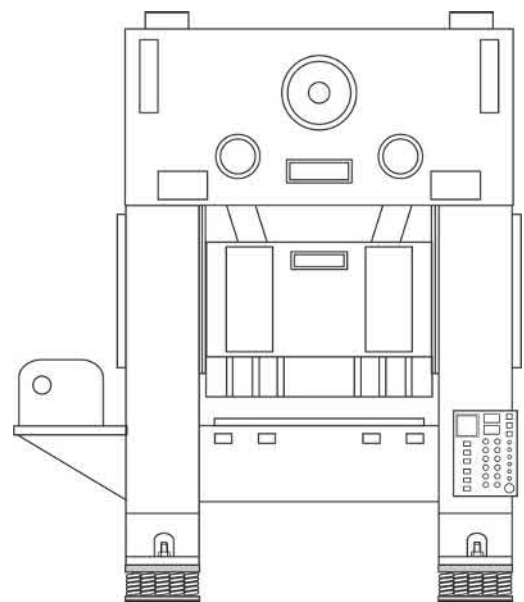

Figure 3
5. If a feed is rigidly attached to the press, then it must be totally supported by the spring mounts as shown in Figure 3. It cannot be partially supported by the press and the foundation or isolator performance will suffer. The weight of the feed must be taken into account at the time of the isolator selection and recommendation.